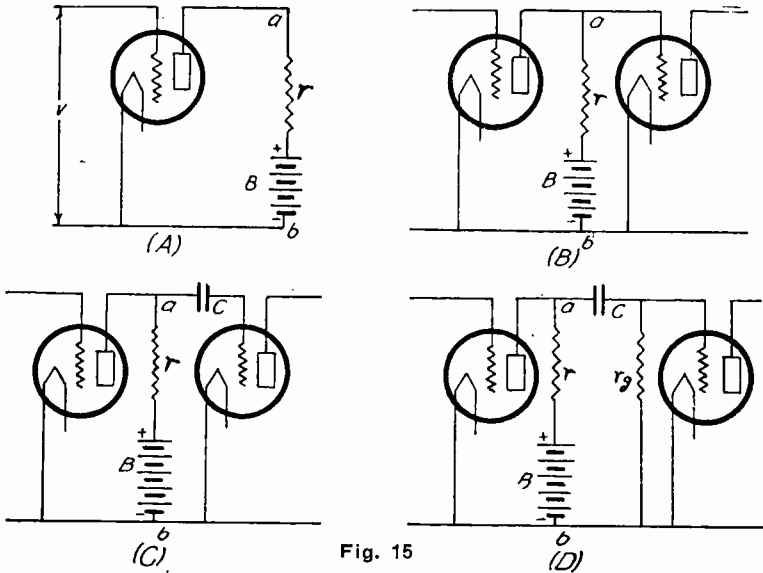

Fig. 15
In order to obtain energy from the plate circuit of an electron tube, we must have a “load” which can receive this energy. Now this load may just as well be an ordinary resistance. A resistance has an advantage over an inductance, in that it does not vary with the frequency. Figure 15-(A) shows what we mean. We have again left out the filament
If we wanted to add another tube to the amplifier, we might just as well connect it to the points a and b, as we have done in Figure 15-(B). But right here enters a difficulty.
In order to avoid this large positive bias we place a blocking condenser in series with the grid of the second tube, as shown in Figure 15-(C). This is marked C. Now we have introduced *two* more complications. In the first place the re-
To come to the other difficulty which we mentioned. If you look carefully at Figure 15-(C), you will notice that the grid of the second tube is "free." That is to say, the condenser prevents the electrons, which the grid may collect, from leaking off the grid and passing on back to the filament from which they originally came. We will not repeat here the ill-effects of the "free" grid as we have taken this up earlier in this lesson.
It will be sufficient to say that a leakage path must be furnished, and so we connect in the circuit the grid leak r_g , in Figure 15-(D). In this figure we have the complete circuit diagram of the resistance-capacity coupled amplifier, minus the "A" battery.